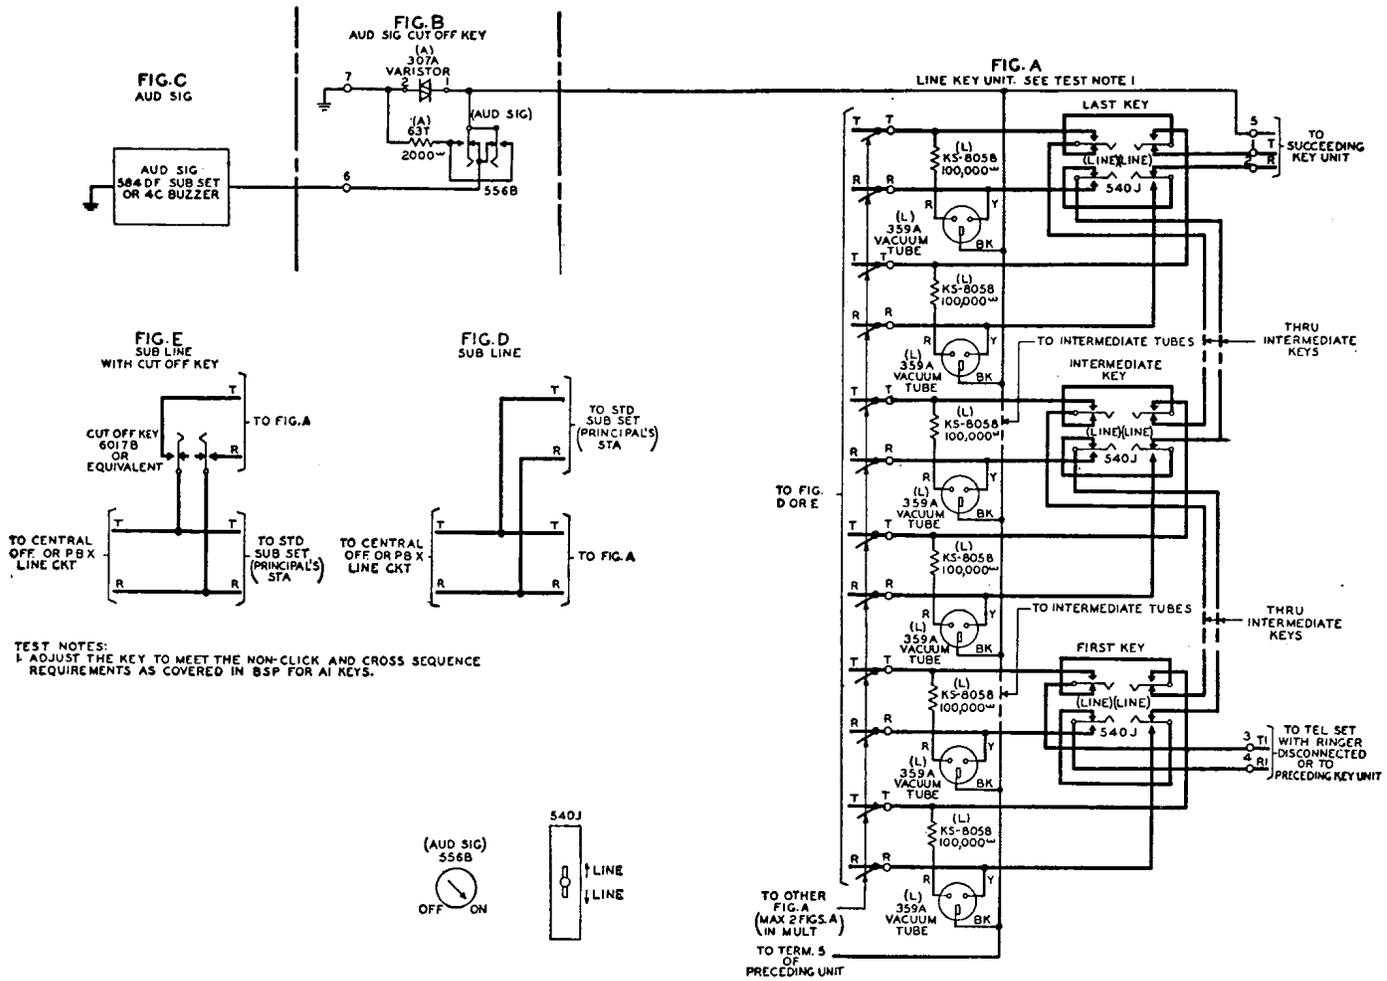

Fig. 6 — Circuit Diagram
5. Run wiring between units as shown in Fig. 6.